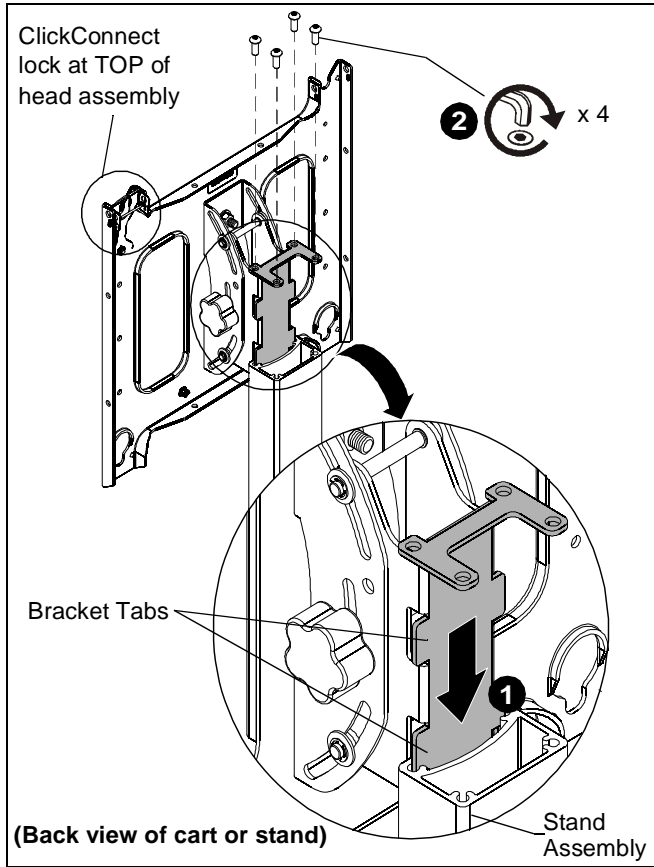

Figure 12
IMPORTANT ! : When attaching head assembly ensure that the ClickConnect lock is at TOP of head assembly, and bracket tabs slide into the stand assembly. (See Figure 12)
1. Slide head assembly into the stand assembly. (See Figure 12)
2. Attach head assembly to stand using four button head cap screws removed in **Removing Head Assembly** section. (See Figure 12)